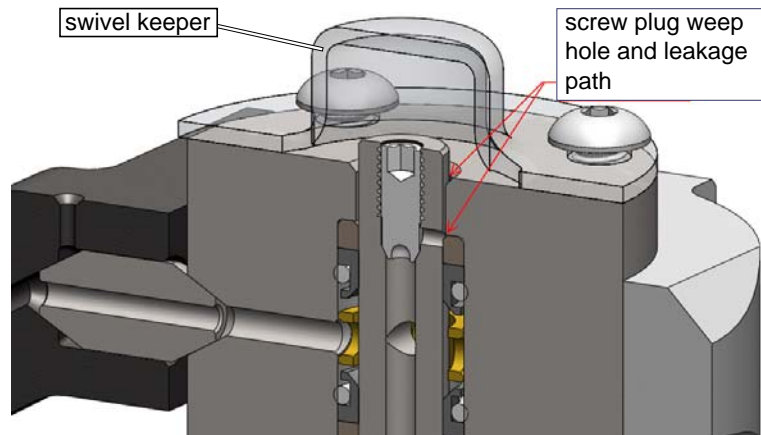

Figure 93
- Ensure that the swivel screw plug is seated correctly (see Figure 93 for location).
**WARNING!** *Never high-pressure test the A-Jet with the swivel keeper removed (Figure 93). If the nipple has a broken piece in the swivel assembly, that piece could come flying out with extreme force.*
**Note:** *Water from a leaking screw plug will not exit through the threads but through the weep hole identified in Figure 93.*